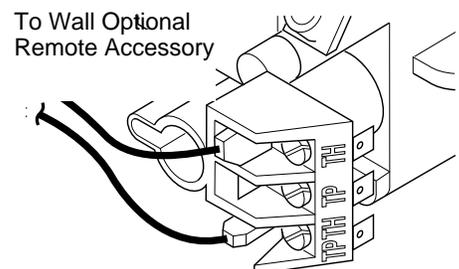

Figure 44 - Control Valve Terminals
3. Connect one terminal of the provided wire for the wall thermostat to the TPTH terminal on the valve. Connect remaining wire terminal to the TH terminal on the valve. Make sure that the wire terminals are in the positions as pictured in Figure 44. If wires are not connected as shown the thermostat will not work.